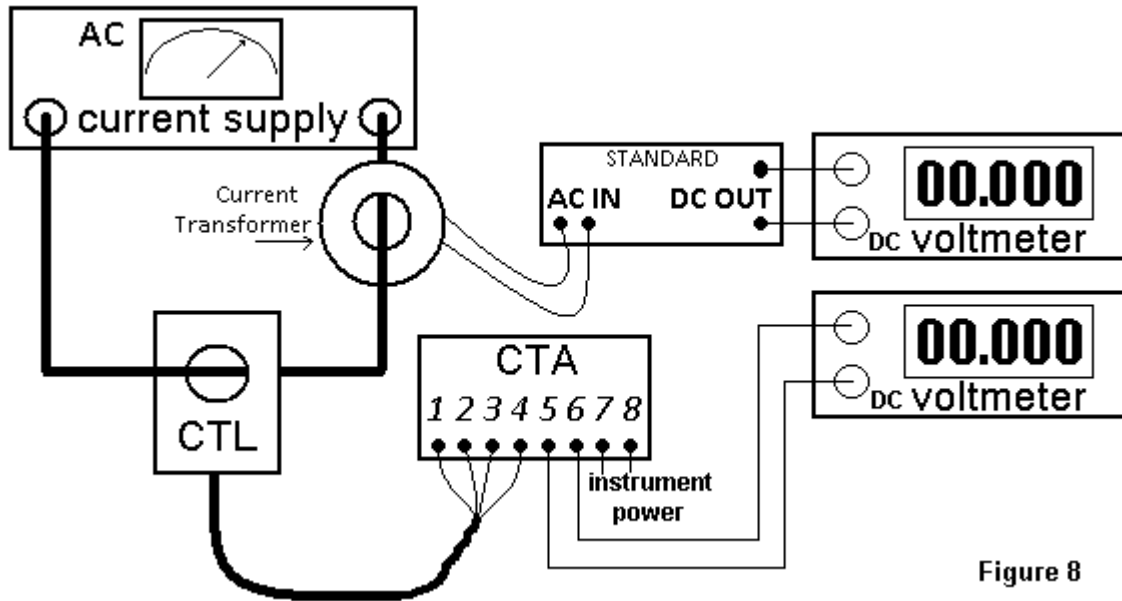

Figure 8
- AC current supply capable of supplying full window current for the model-sets with an **RMS-Measuring CTA:** (CTA213*, CTA214*, CTA215*). Supply output Frequency Supply output Frequency (50Hz, 60Hz, 400Hz, etc.) can be used to meet the requirement of the CTL/CTA application. Figure 8.
- AC "Standard" - Includes Current Transformer. For AC calibration. Figure 8.
AC Calibration: (RMS measuring CTA213*, CTA214*, CTA215*) (Figure 8)